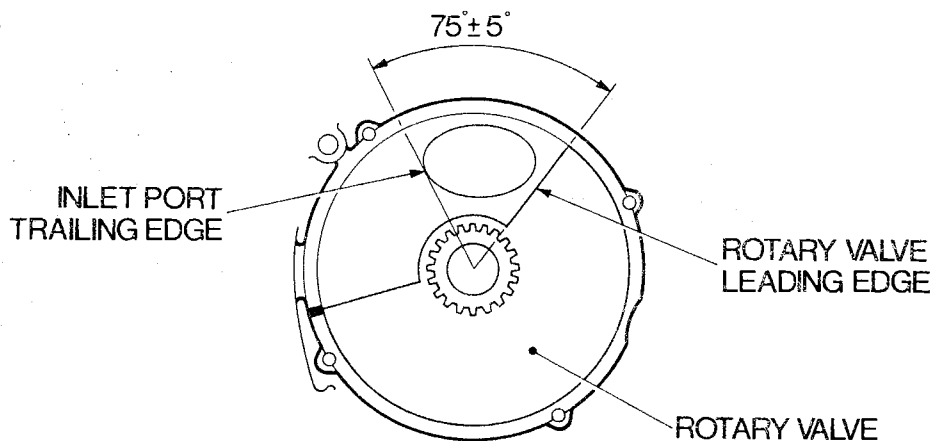

Figure 1.6 - Rotary Valve Timing (B)
- b. From the closing edge of the inlet port mark 75° (clockwise). See Figure 1.6.